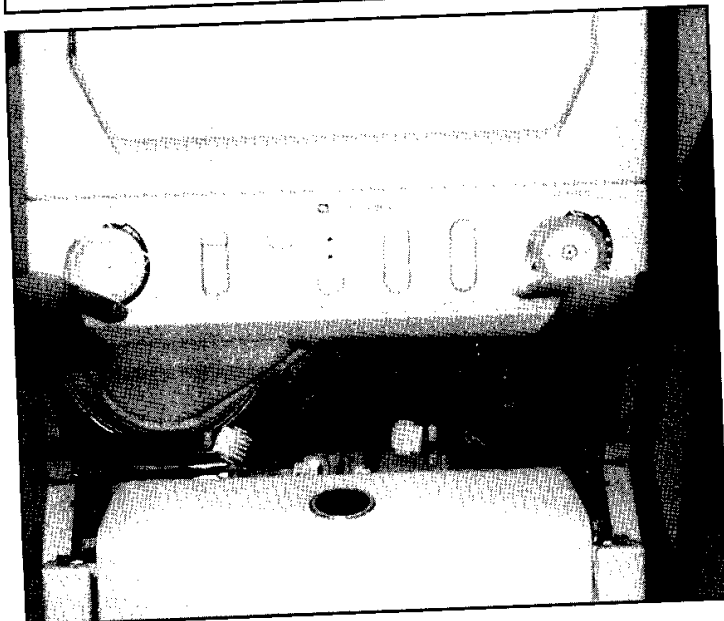
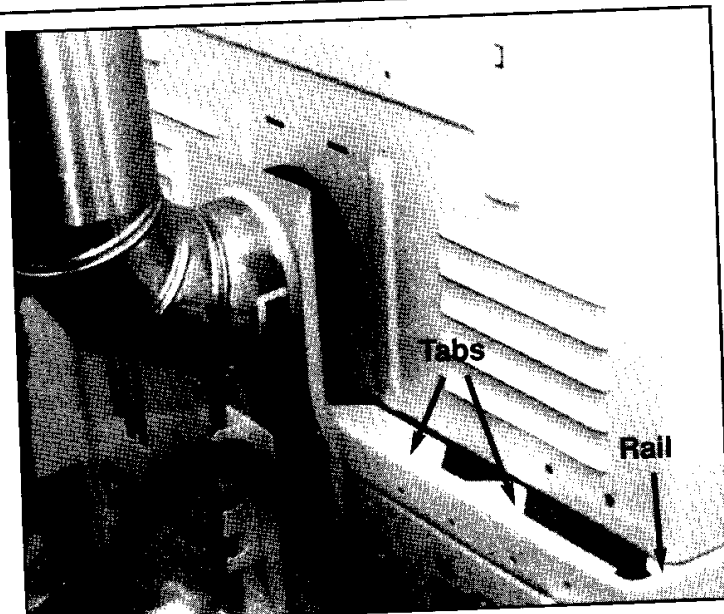

Figure 34
Figure 35
- 14.** Two people, one on each side, grasp and lift the dryer (see figure 34), taking care not to bend the tabs located towards the front of the washer. Slide the upper dryer toward the rear making sure that the guides fall between the rails on the support of the washer. (See figure 35.)